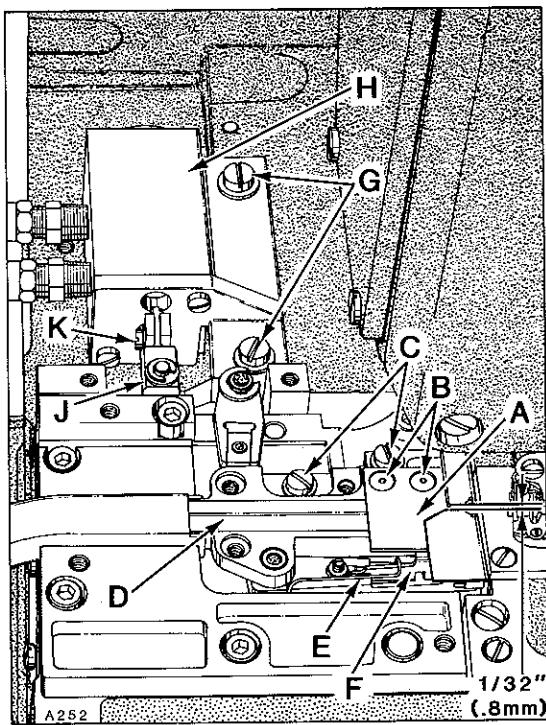

Fig.27
Upper knife (A, Fig. 27) can be replaced by removing two screws (B). To replace lower knife, the upper knife must be removed and rear suction tube cover. Loosen two screws (C) and slide housing (D) towards the rear. Remove throat plate support with throat plate attached. Remove screw (A, Fig. 28) and lift up thread inlet (B). Unhook knife spring (E, Fig. 27) and remove lower knife (F). Reassemble knives in reverse manner. Reassemble thread inlet (B, Fig. 28) and slide housing (D, Fig. 27) forward against rear of throat plate; tighten two screws (C).
IMPORTANT: Be sure that lower knife does NOT strike against knife housing or feed chamber cover. Adjustment should be accomplished by loosening two screws (G, Fig. 27) and reposition air motor (H) left or right slightly, but under extreme circumstances it may become necessary to shorten the stroke of lower knife travel by repositioning coupling (J).
Carefully press against lower knife (F, Fig. 27) until air motor stalls. With treadle still depressed, check the knife cross over. Cross over of lower knife to upper knife is positioned correctly when the lower knife is $1/32$ inch (.8mm) from the front of upper knife as shown in Figure 27. If adjustment is required, loosen screw (K) and reposition coupling (J) as required to obtain specified dimension.